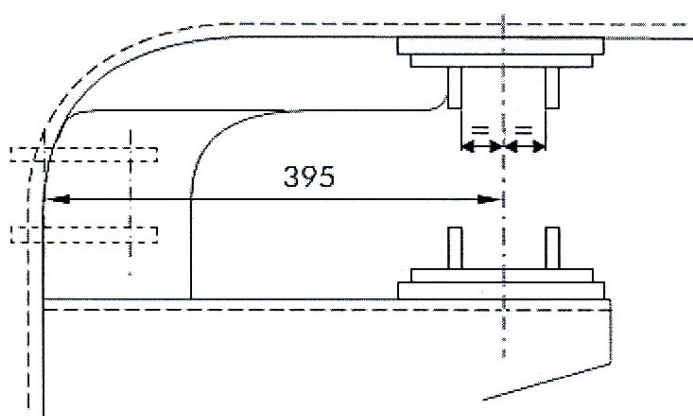

Figure 12: Critical Dimensions for Brake Hanger Brackets
G5. Check that the alignment and relative position of the brake calliper yoke and suspension link mounting points comply with the requirements specified on Figure 12, (extract from Drg No. B-S-780), at all four positions. It is recommended that an alignment jig is produced for the purpose, and the associated procedure agreed with the Engineer.
- Obtain brackets without holes and drill them to meet the requirements of Figure 12.
Items 7, 8 and 9 to be aligned in accordance with Scheduled Work step G5 and Figure 12.
G7. If heavy contact marks are found change brake hanger bracket for the design shown on Drg C-A1-9577, item 8 (Cat No. 63/7838). Refer to Scheduled Work step G5 and Figure 12, for positioning tolerance for fitting bracket.